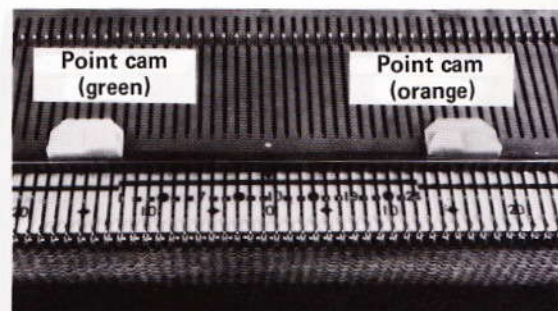

Fig. 120
7. As indicated in fig. 120, place the motif cams on the needle bed so that they correspond with a complete group of 24 stitches as indicated by the red line. Place the orange point cam on the right-hand side and the green point cam on the left-hand side.